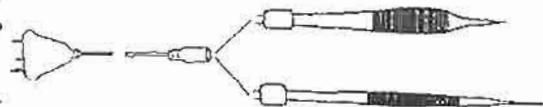

Figure 2-9. Handswitching forceps connections.
a. *Installation.*(1) *Handswitching forceps (fig 2-9).*